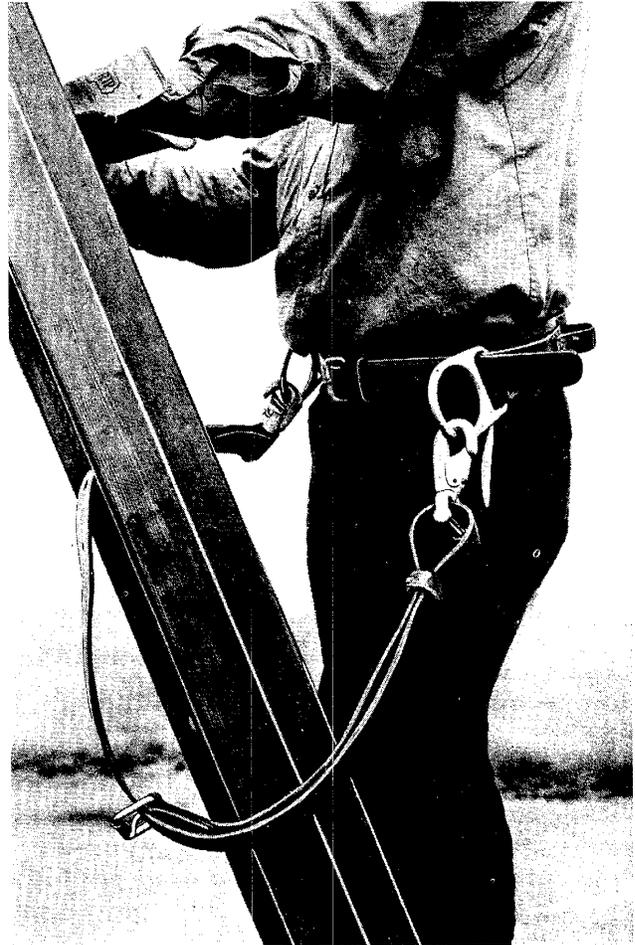

Fig. 7—Method of Using Safety Strap When Working From Ladder
- (1) Pass the free end of the safety strap between two rungs and around one side rail, and engage the snap hook in the other Dee ring (Fig. 7) or
- (2) Pass the free end of the safety strap around a rung and engage the snap hook in the other Dee ring, or
- (3) Pass the free end of the safety strap over the suspension strand so as to loop the strand and engage the snap hook in the other Dee ring.